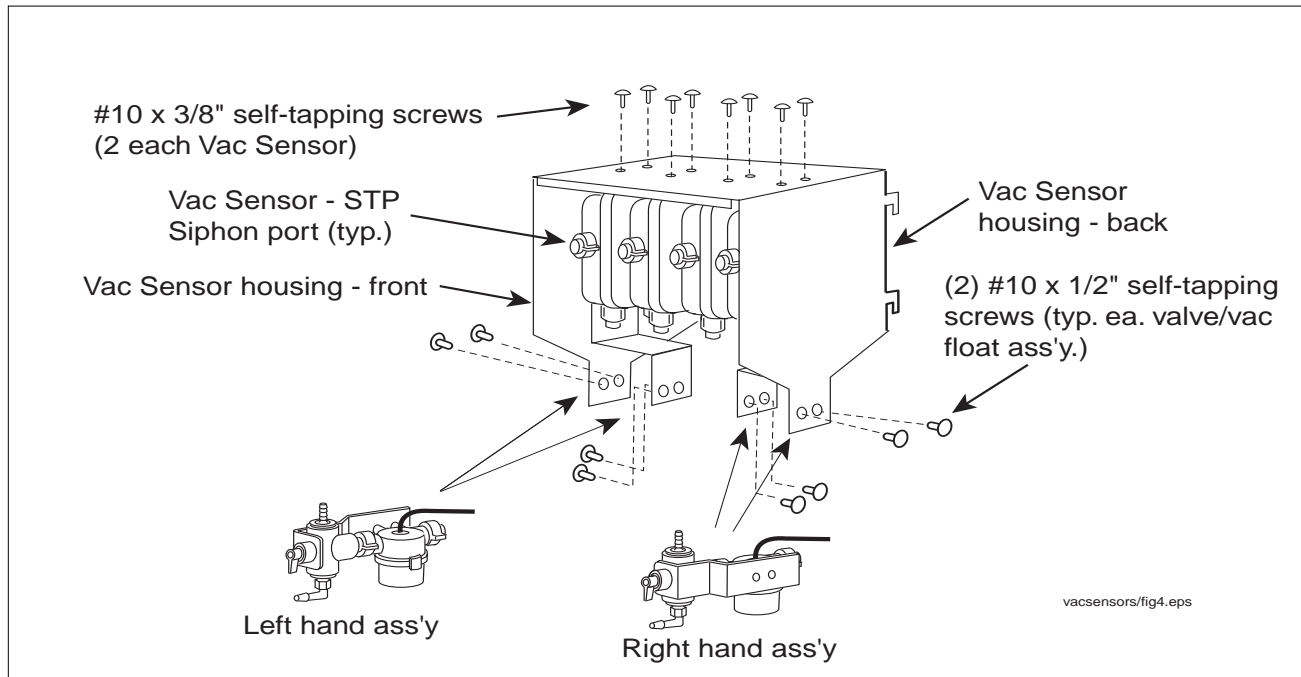

Figure 3. Attaching four Vac Sensors/Floats to the housing
2. Get the Vac Sensor housing from the mounting kit and attach each of the Vac Sensors (up to 4) to the top of the housing using #10 x 3/8" self-tapping screws as shown in Figure 3. Mount the Vac Sensors with the 'STP Siphon' labeled port facing the front of the housing.
If you are not monitoring a tank interstice, there is a maximum of two left-hand Vac Sensor/Float mounting positions and two right-hand Vac Sensor/Float mounting positions in the Vac Sensor Housing (Figure 3). If a tank interstice is being monitored, then one of the four Vac Sensors will have no Vac Float attached.
- Get the angled support brackets from each Vac Float kit. Depending on the Vac Float's position in the housing, orient the bracket so that when you slip the large hole in the front of the bracket over the valve handle, the two holes in the side of the bracket are in line with the two holes in the side of the Vac Float body as shown in Figure 3. Secure the Vac Float assembly to the housing using two #10 x 1/2" self-tapping screws which screw into the two holes in the side of the Vac Float.